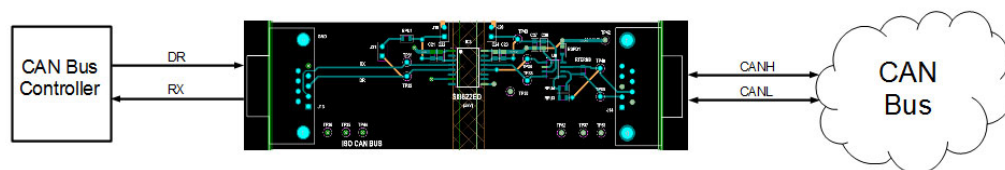

Figure 9. Isolated CAN Bus Interface Connection
4. A typical connection to the EVB is shown in Figure 9.
- Connect the controller side driver output and receiver input to the J13.3 (DR) and J13.2 (RX) pins of EVB respectively.